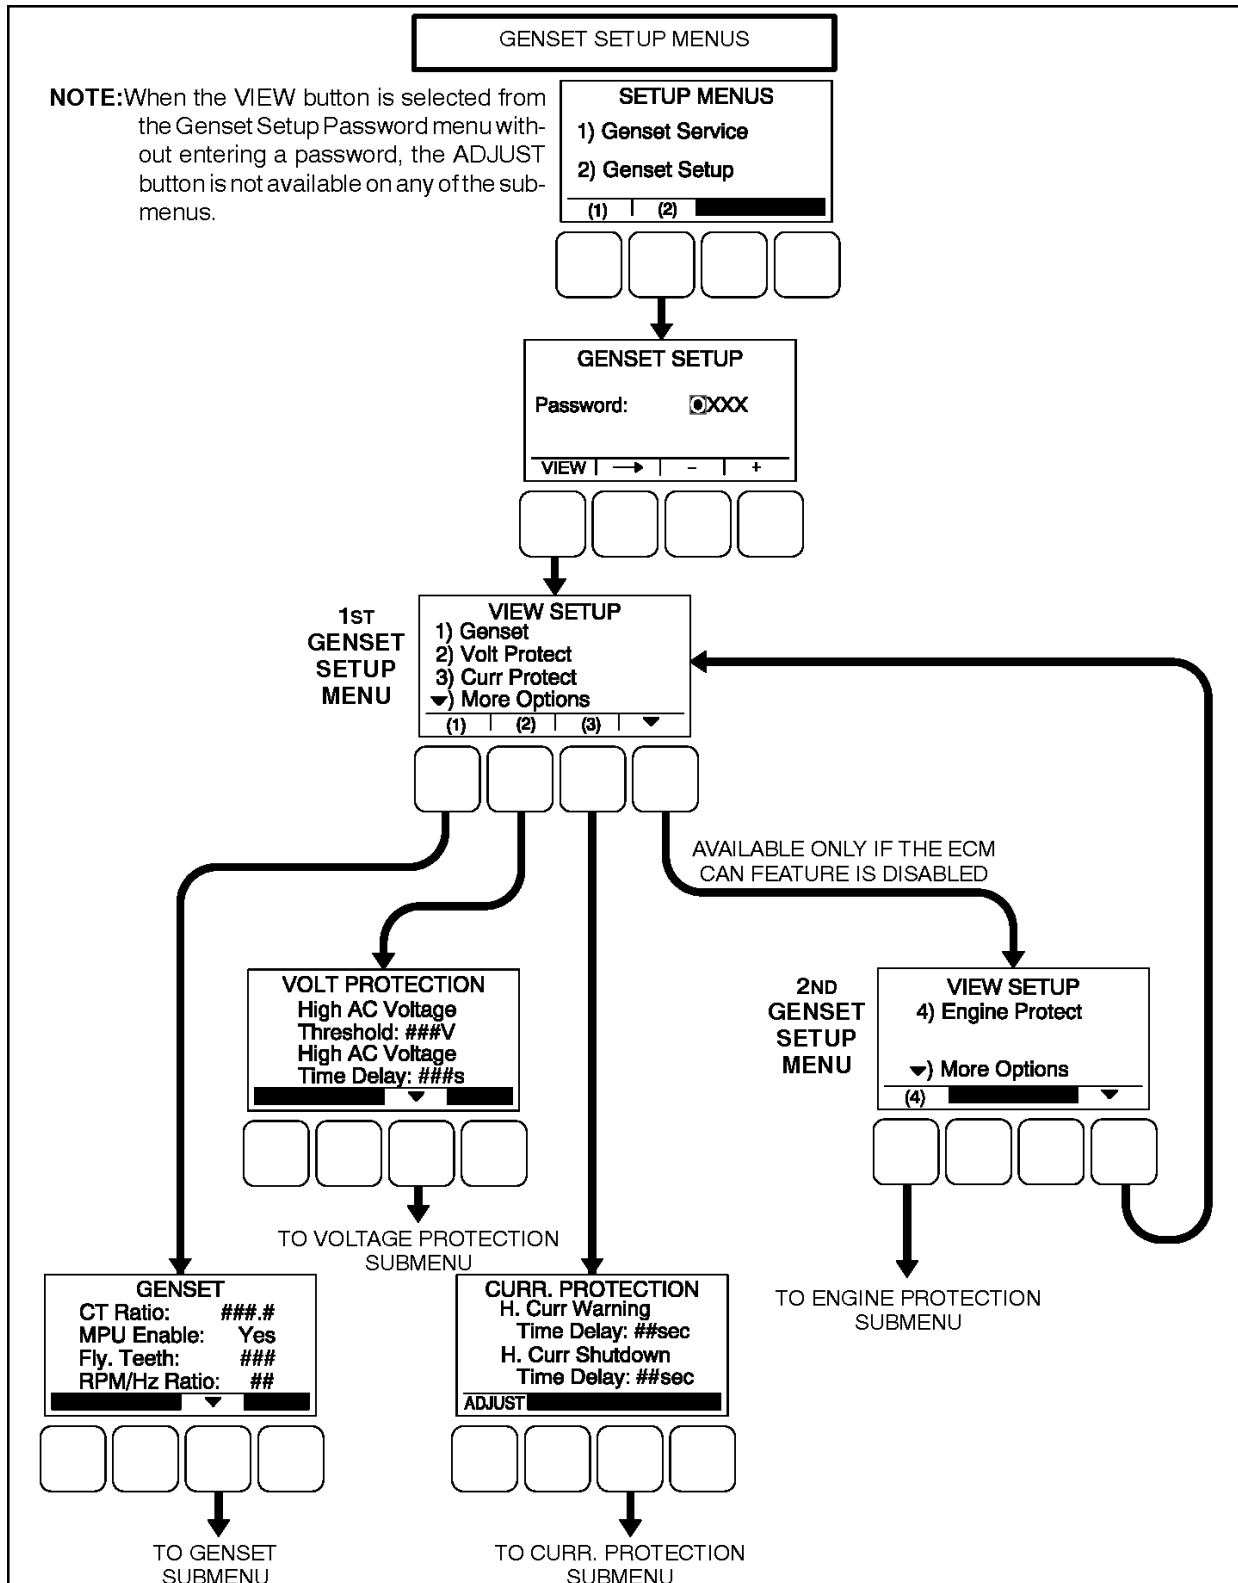

FIGURE 69. GENSET SETUP MENU
Figure 69 on page 122 is a block representation of the two Genset Setup menus that are available after the correct password has been entered or the View button is pressed in the Genset Setup Password menu. The Genset Setup menus provide access to the following categories.
When the Genset Setup Password menu is displayed, the first numeric character (0) is highlighted (see Figure 69 on page 122).
The Genset submenus are available by pressing the **(1)** button on the first Genset Setup menu (see Figure 69 on page 122).
The Voltage Protection submenus are available by pressing the **(2)** button on the first Genset Setup menu (see Figure 69 on page 122).